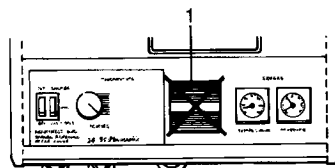

Fig. 1
In this mode the timed/rest/constant switch must be in the closed ie. constant position fig. 1.
Remove the clock aperture blanking plate (1) (fig 1) by squeezing the two lugs on the rear of the plate together and push the plate out.